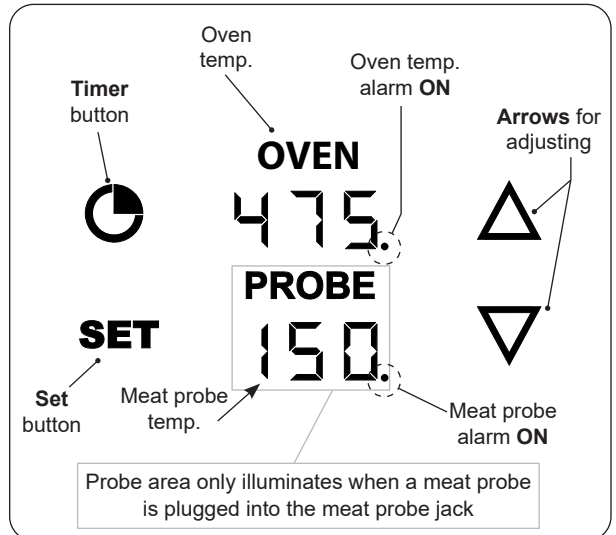

Fig. 32-2 Orientation (default screen)
Read the following sections completely regarding thermometer operation. Refer to Fig. 32-2 for thermometer orientation and button locations.
**Press thermometer power switch to turn ON:** The digital thermometer display and touch-controls will illuminate. See Fig. 32-2. This is the “**default screen**”.